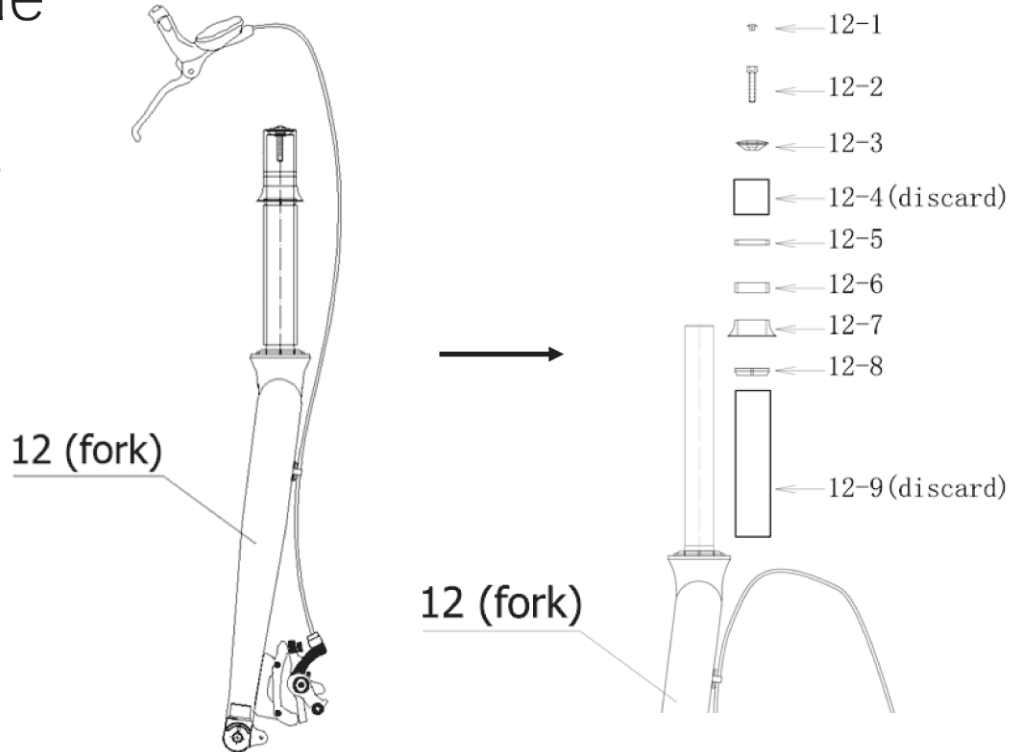

Figure 21.
c. Use a 5 mm Allen key to remove the bolt (Part 12-2), remove all the parts from the fork one by one, and then discard Part 12-4 and Part 12-9, as shown in Figure 21.